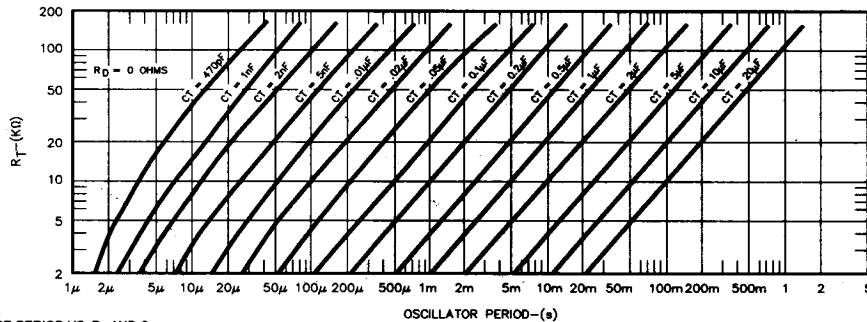

FIGURE 19.
1. With  $R_D = 0\Omega$  (pin 11 shorted to ground) select values for  $R_T$  and  $C_T$  from Figure 19 to give the desired oscillator period. Remember that the frequency at each driver output is half the oscillator frequency, and the frequency at the  $+V_C$  terminal is the same as the oscillator frequency.